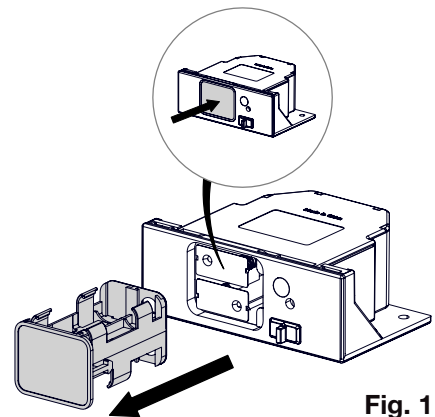

Fig. 1
2. Open the receiver battery compartment by pressing it in; it will release and pop out (**Fig. 1**).